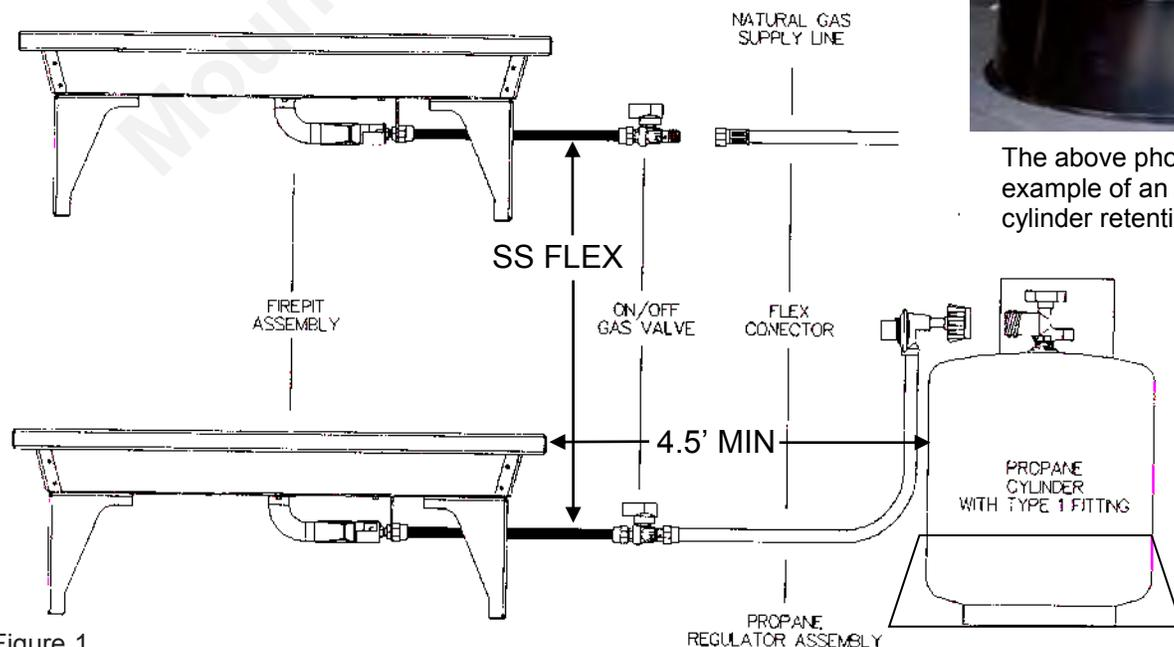

Figure 1
- C. NATURAL GAS MODELS: Connect the incoming gas supply line to the on/off gas valve of the appliance (Figure 1). Make certain ALL gas connections are tight, turn the on/off valve at the unit slowly to the on position and use soap water to test for leaks. DO NOT USE AN OPEN FLAME.
3. Screw non-combustible shield to spacer. Shield must be placed 1" below top of firepit Fig:2-Ref:D. Inside corners of shields should not touch combustible wall. Shield must extend 3" past end of firepit Fig:1-Ref:E.
2. All specifications as in corner installation must be used, including shield must extend a minimum of 3" past sides of firepit Fig:1-Ref:E.